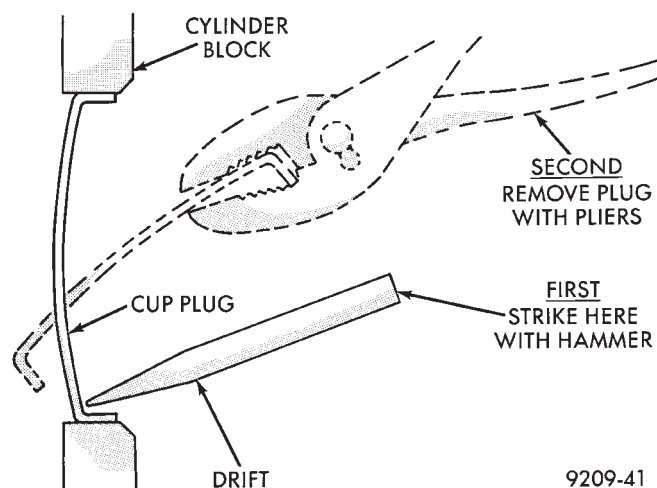

Fig. 55 Core Hole Plug Removal
(1) Using a blunt tool such as a drift or a screwdriver and a hammer, strike the bottom edge of the cup plug (Fig. 55).
(2) With the cup plug rotated, grasp firmly with pliers or other suitable tool and remove plug (Fig. 55).